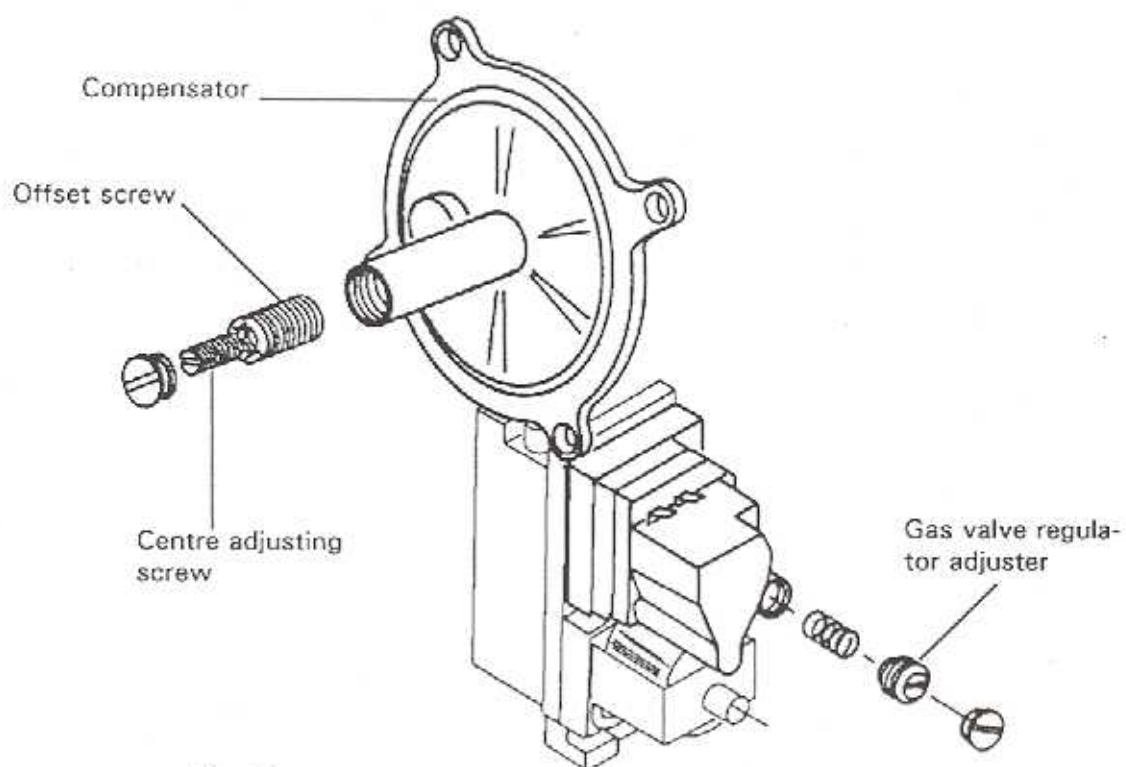

Fig.48
- 8.24.12 Adjust the gas pressure to $0.6 \text{ mbar} \pm 0.1 \text{ mbar}$ by turning the offset screw in the compensator using a tube spanner. (Fig.48)
- 8.24.13 Adjust the minimum gas pressure to 0.8 mbar $\pm$ 0.2 mbar by turning the centre adjusting screw in the compensator. (Fig.48)
- 8.24.15 Turn the ADJ HEAT potentiometer fully clockwise, adjust the main burner to 9.4 mbar using the adjuster on the gas valve regulator (Fig.48).